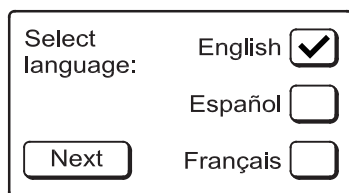

FIG. 15
1. LANGUAGE: If the desired language is not checked (See Figure 15), press the button next to the desired language, then press the NEXT button.